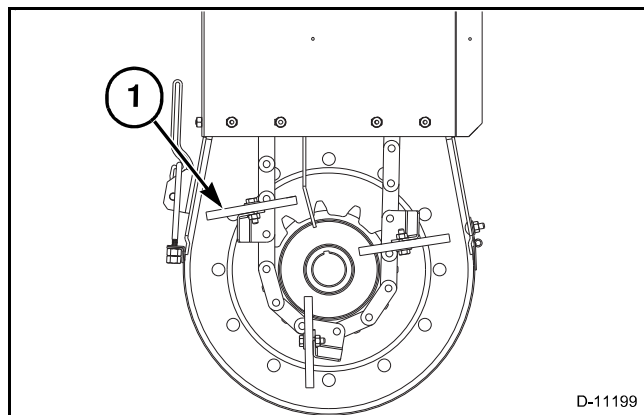

FIG. 895
FIG. 895: When installing the elevator chain paddles (1), make sure the paddles are installed with the concave side facing the direction of elevator chain travel.